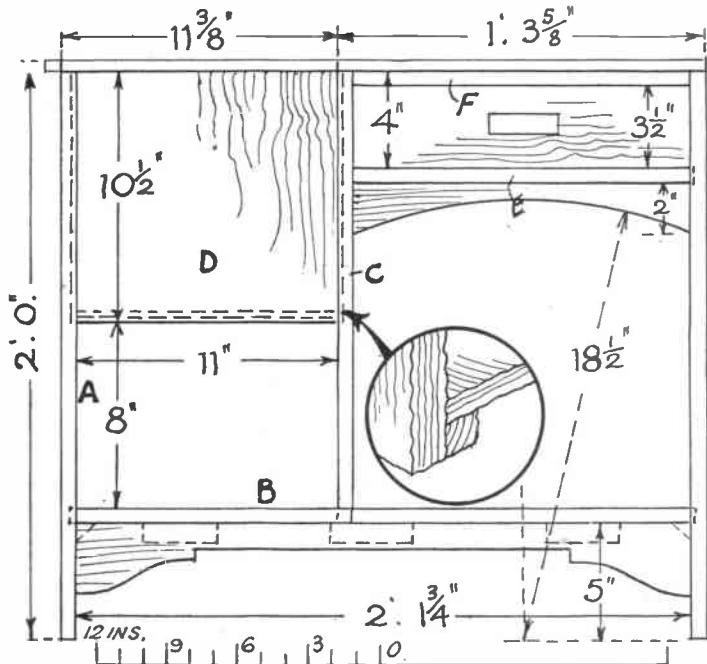

Fig. 2
two parts (D) and that tenons are cut along the bottom to fit into the mortises cut in floor (B). There are two stiffening rails, one long one to go under the edge of the floor (B) to which it is countersunk screwed and glue-blocked as shown in Fig. 2. The second stiffener is under the rail (E), and its shaping can be determined by the radius line of $18\frac{1}{2}$ ins. shown. The detail Fig. 4 shows how all